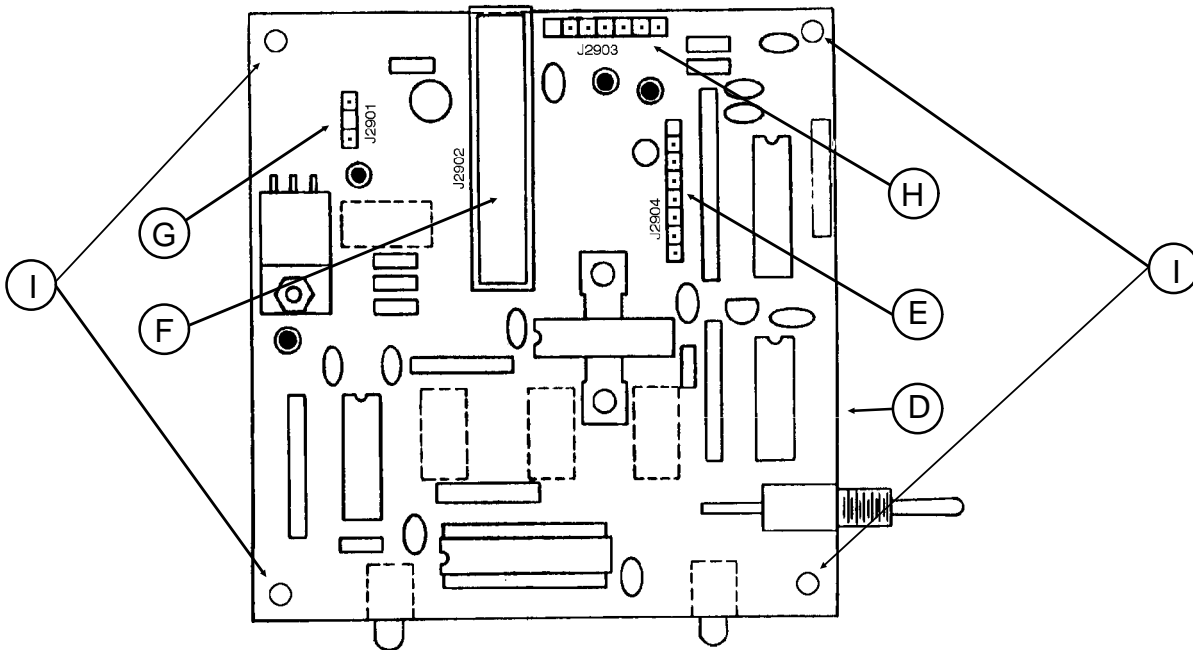

Figure 2
- Slightly lift the Tensioner Assembly and Color Change Cover. Locate where the Tensioner Cable Plugs into the Color Change Board (Figure 2-D) at J2904 (Figure 2-E).
NOTE: The physical appearance of the Color Change Board may vary somewhat from Figure 2, however the applicable connectors will still be in the correct location.
- Unplug the Main Power Cable from J2902 (Figure 2-F).
- Unplug the Jump Stitch Cable from J2901 (Figure 2-G).
- Unplug the Color Change Motor Cable (if present) from J2903 (Figure 2-H).
- Locate the four white Mounting Tabs (figure 2-I) holding the Color Change Board in place. Press the center lock of each Tab in to release the Board, and lift up on the edge of the Board.